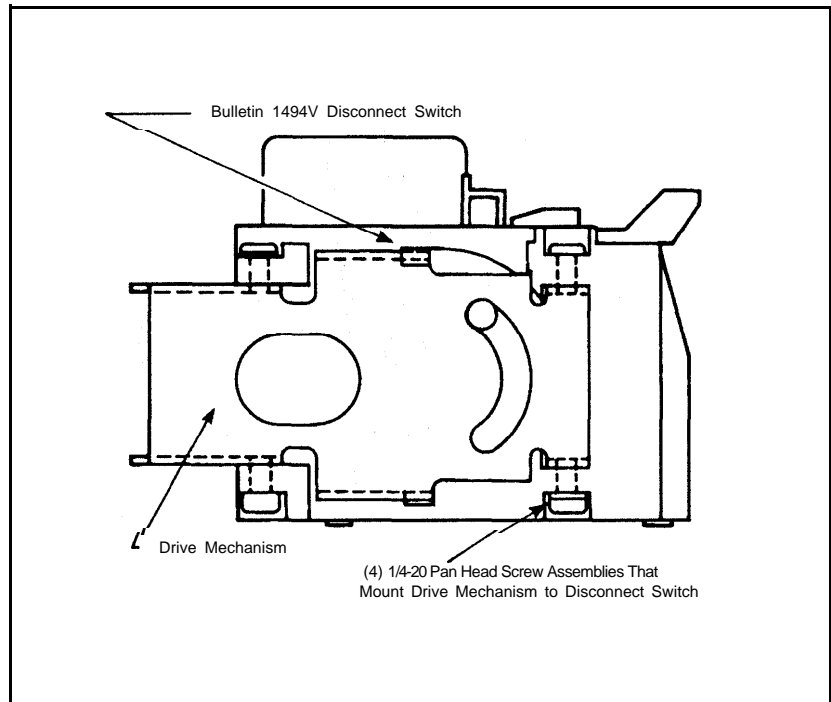

Figure 8
1. With the disconnect switch in the "OPEN" position, loosen and remove the four screws and remove the drive mechanism from the right hand side of the disconnect switch. Save the four 1/4-20 pan head screw assemblies shown in Figure 8.